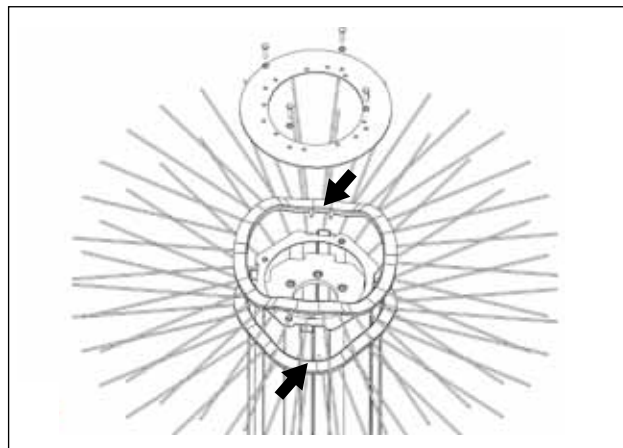

figure 2
- b. Install a second section with drive pins rotated 180° from those on the first section. (figure 2)